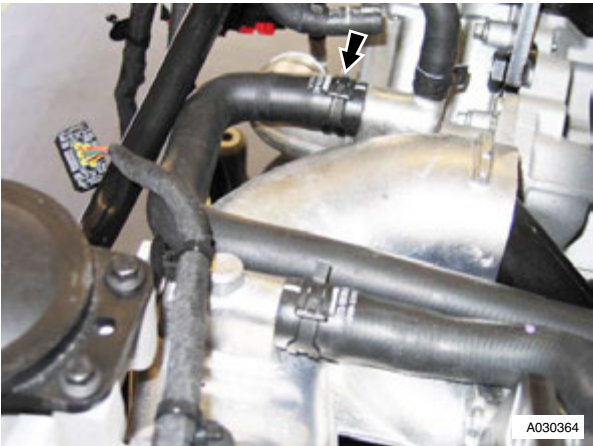

Figure 3
7. Disconnect throttle body coolant hose (refer to Figure 3).